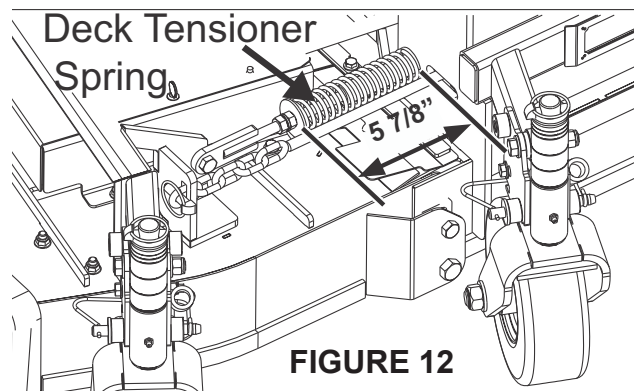

FIGURE 12
15. Use the hex nuts on the deck tensioner to tension the deck tensioner spring so the distance from the washer to the deck support plate is 5 7/8". (Figure 12)